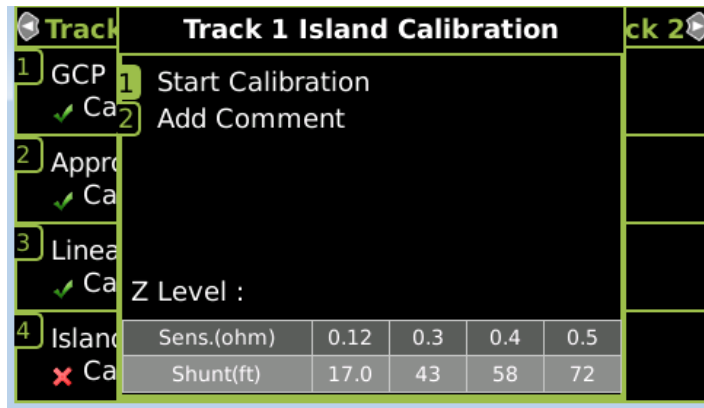
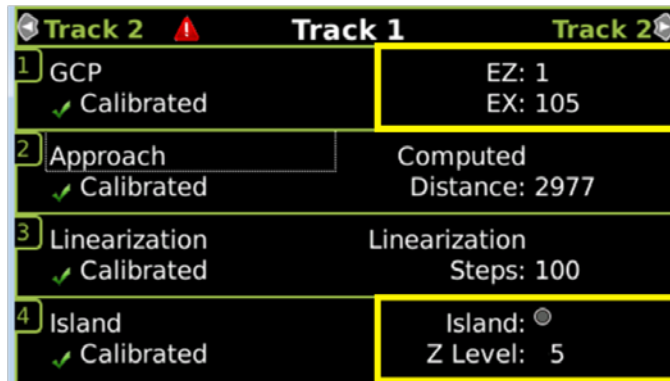

Figure 8 Island Calibration Window
Figure 9 Track Calib View EZ Level and Island Z Level
Step 2	<p>Temporarily install a hardwire shunt beyond the island receiver rail connections at the appropriate distance specified below the Calibration Required message.</p> <ul style="list-style-type: none"> Shunt distances for island frequencies are provided in the table following the Island Calibration procedure. The appropriate ones for the configured island frequency are also shown on the calibration screen as shown in Figure 8 Ensure EZ value is less than or equal to 5, confirming that the calibration shunt has a good connection to the rail. See Figure 9.